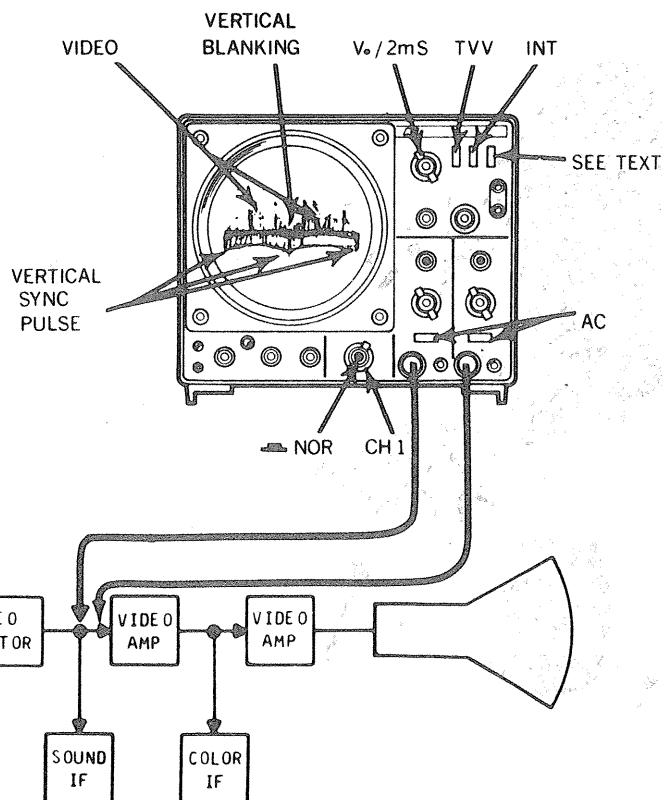

Figure 16. Viewing Field #1 and Field #2 VITS Information
Many of the television servicing procedures can be performed using single-trace operation. These are outlined later in the application section covering single-trace operation. One of these procedures, viewing the VITS (vertical interval test signal) can be done much more effectively using a dual trace oscilloscope. As outlined the single-trace applications section and as shown in Figures 22 and 23, the information on the field #1 and field #2 vertical blanking interval pulse is different. This is shown in detail in Figure 22. Also, because the oscilloscope sweep is synchronized to the vertical blanking interval waveform, the field #1 and field #2 waveforms are superimposed onto each other as shown in Figure 24A. With dual trace operation the signal information on each blanking pulse can be viewed separately without overlapping. Figure 16 indicates the oscilloscope control setting for viewing the alternate VITS.
2. The control settings of Figure 16 are those required to obtain a 2-field vertical display on Channel 1.